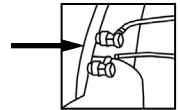

Fig 2.
2. Disconnect blue (Low Side) hose from recovery machine (See Fig 2.)